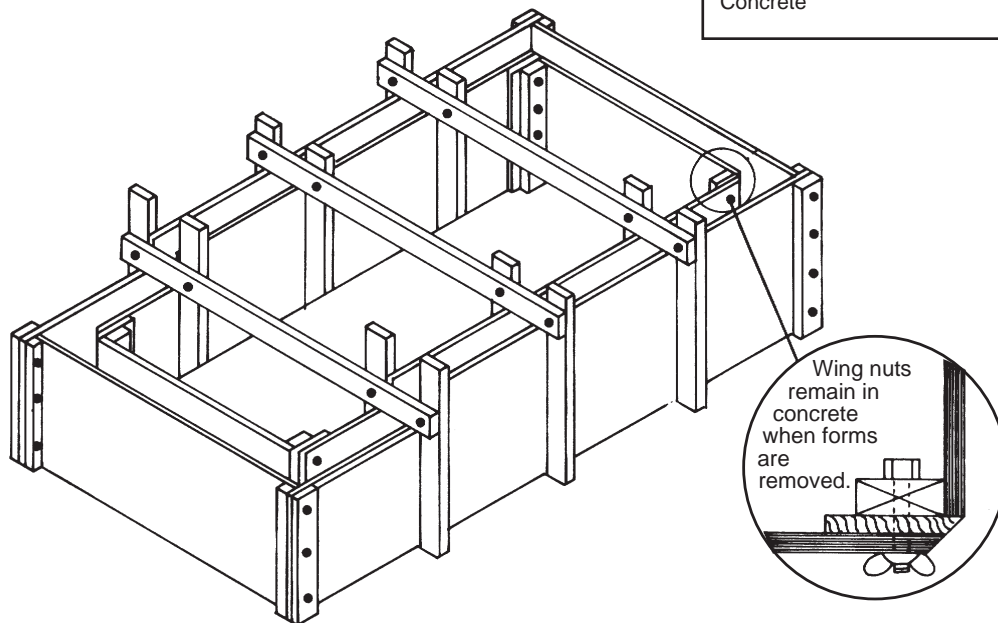

Figure 3. Pictorial view of the assembled forms ready for pouring concrete.
5. Assemble the forms as shown in Figure 3. Apply a coating of grease to the inside form corner connections to permit easy removal of the forms. Use wing nuts on the corner bolts for the inside form. These wing nuts should be on the concrete side of the forms and will remain in the concrete after the forms are removed. Make sure these bolts are installed properly, or you will be unable to remove the forms without destroying them.